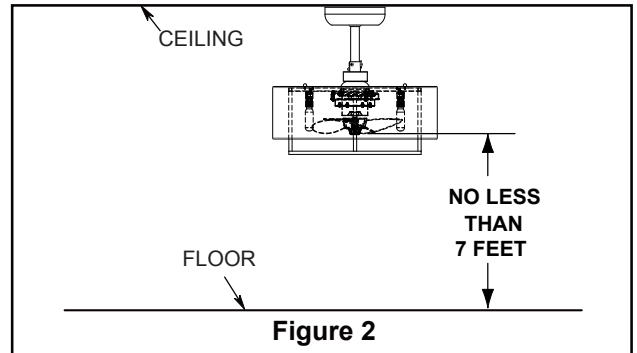

Figure 2
The fan must be hung with at least 7' of clearance from floor to blades. (Figure 2)
1. Slide the receiver into the hanger bracket with the flat side up towards the ceiling. as shown in. (Figure 2)